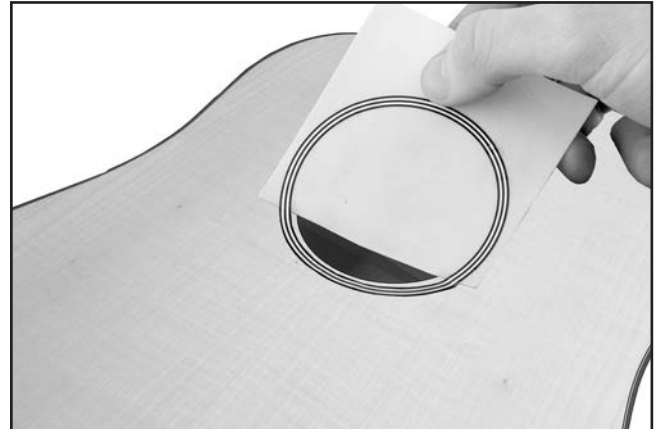

Figure 24. Sliding decal onto body.
3. Gently slide decal off decal sheet into position around sound hole, as shown in **Figure 24**.